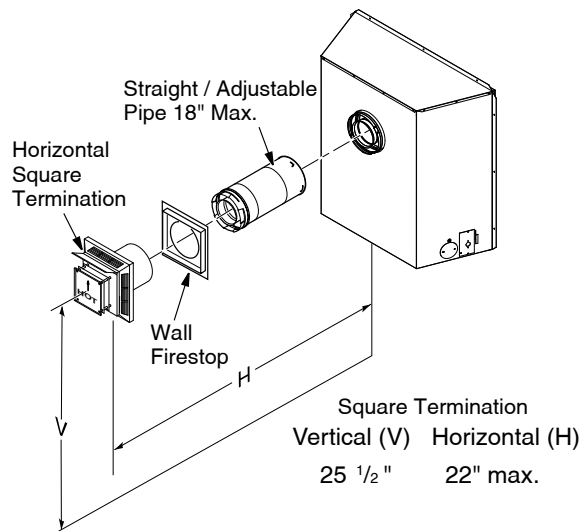

Figure 19 - Horizontal Termination Configuration for Flush Installation (Model (V)CD36R)
1. Set the fireplace in its desired location and determine the route your horizontal venting will take. Do not secure the fireplace until all venting has been installed. Some installations require sliding the fireplace in and out of position to make final venting connections. **Figures 19** through **25** on pages 11 through 13 show different configurations for venting with horizontal termination that will help you decide which application best suits your installation. Check to see if wall studs or roof rafters are in the path of your desired venting route. If they are, you may want to adjust the location of the fireplace.
Figures 19 through 25 show different configurations and alternatives for venting with horizontal terminations. Each figure includes a chart with critical minimum and maximum dimensions which MUST be met. **IMPORTANT:** Remember that a horizontal run of venting must have a 1/4" rise for every 12" of run toward the termination.